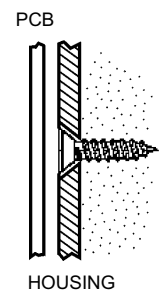

Figure B.4:
10. Mount the back cover to the wall using two screws and replace the PCB. Use ISO 7050 (ST3.5 x 22) or similar countersunk screws so that the screw head will not touch the PCB – see *Figure B.4*.